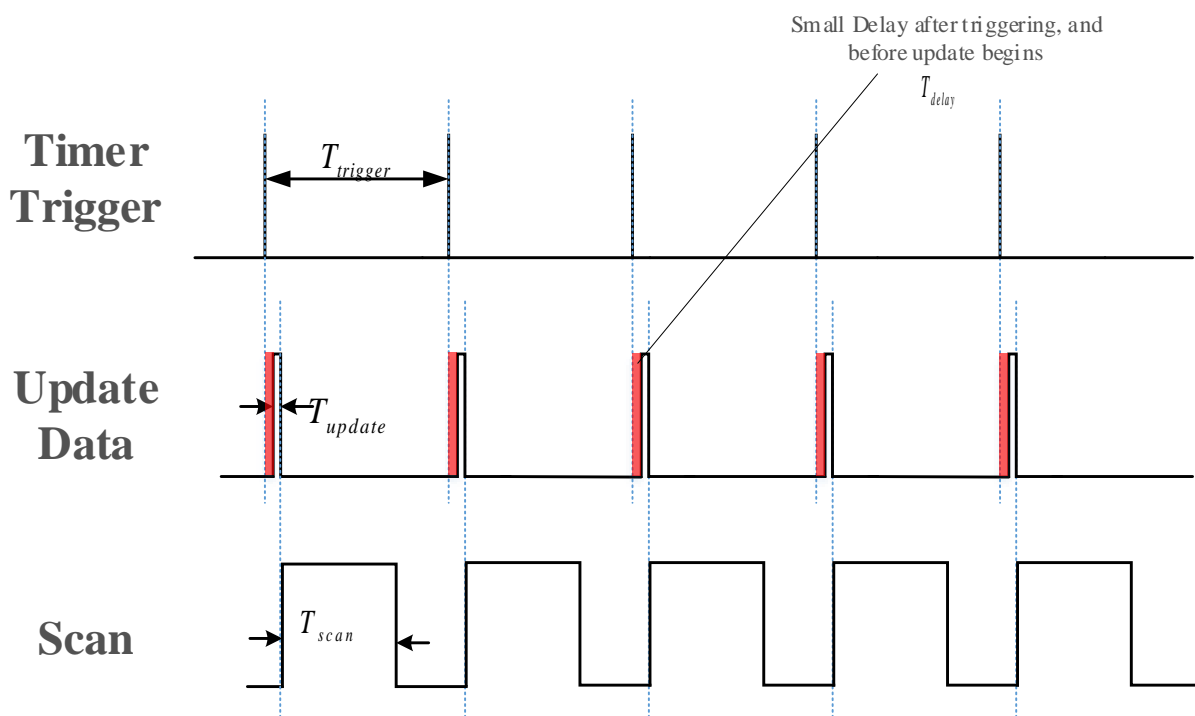

Figure 1: Software Trigger Timing Diagram (timing not to scale)
- A slight delay occurs until the main application detects that the flag has been set (red bar in Figure 1).